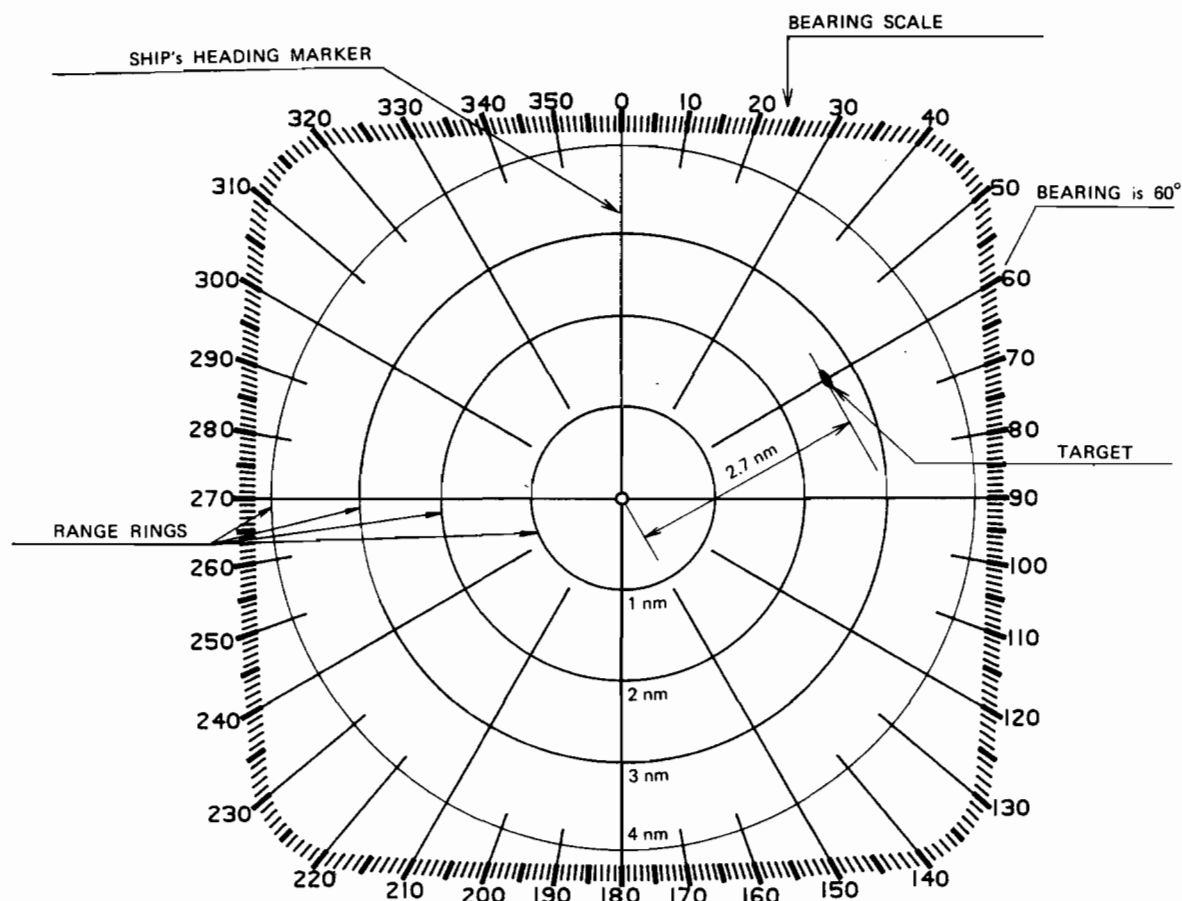

FIG. 2-2 RANGE AND BEARING MEASUREMENTS
2.2 RANGE AND BEARING MEASUREMENTS (See Figure 2-2)